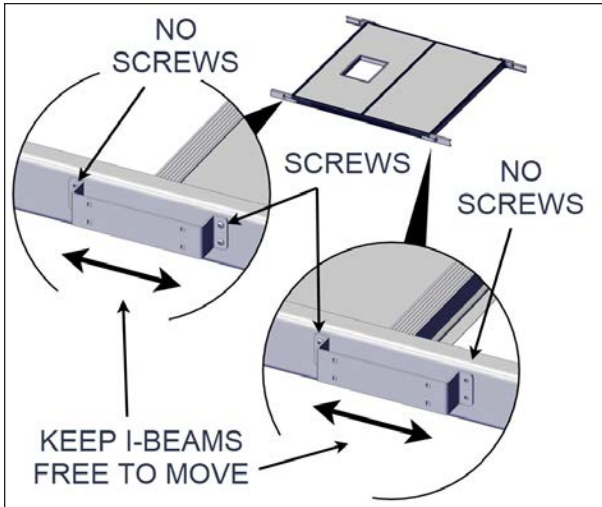

FIGURE 47: OTHER POST BRACKET INSTALLATION
9. Repeat the previous step for the remaining brackets see Figure 47.